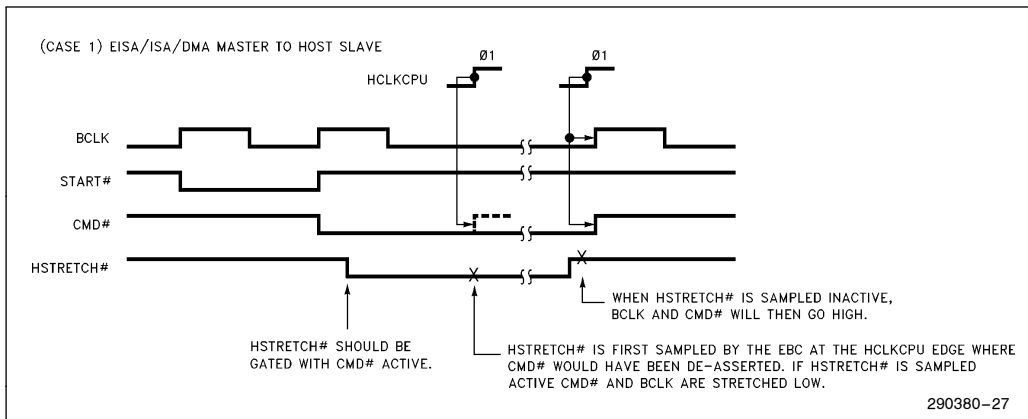

Figure 4-17. BCLK Stretching Caused by HSTRETCH #
- 1) End of cycle during CMD# on the EISA bus when HSTRETCH# is sampled active (refer to Figure 4-17). This results in extending the cycle by holding BCLK and CMD# low until HSTRETCH# has been sampled inactive. After being sampled active, HSTRETCH is sampled on every other HCLKCPU rising edge for 386 systems (CLK1 intervals) and every HCLKCPU rising edge for i486 systems, until it is sampled inactive. HSTRETCH# should not be driven active until CMD# is driven active, and should not remain active for more than 400ns. To prevent HSTRETCH# from being driven active while CMD# is inactive, gate HSTRETCH# with CMD# active. HSTRETCH# can be used to extend a cycle during EISA master and DMA/refresh cycles to host slaves only. It is not recommended to stretch BCLK during ISA master cycles (including ISA master initiated refresh), as ISA masters can be asynchronous to BCLK.